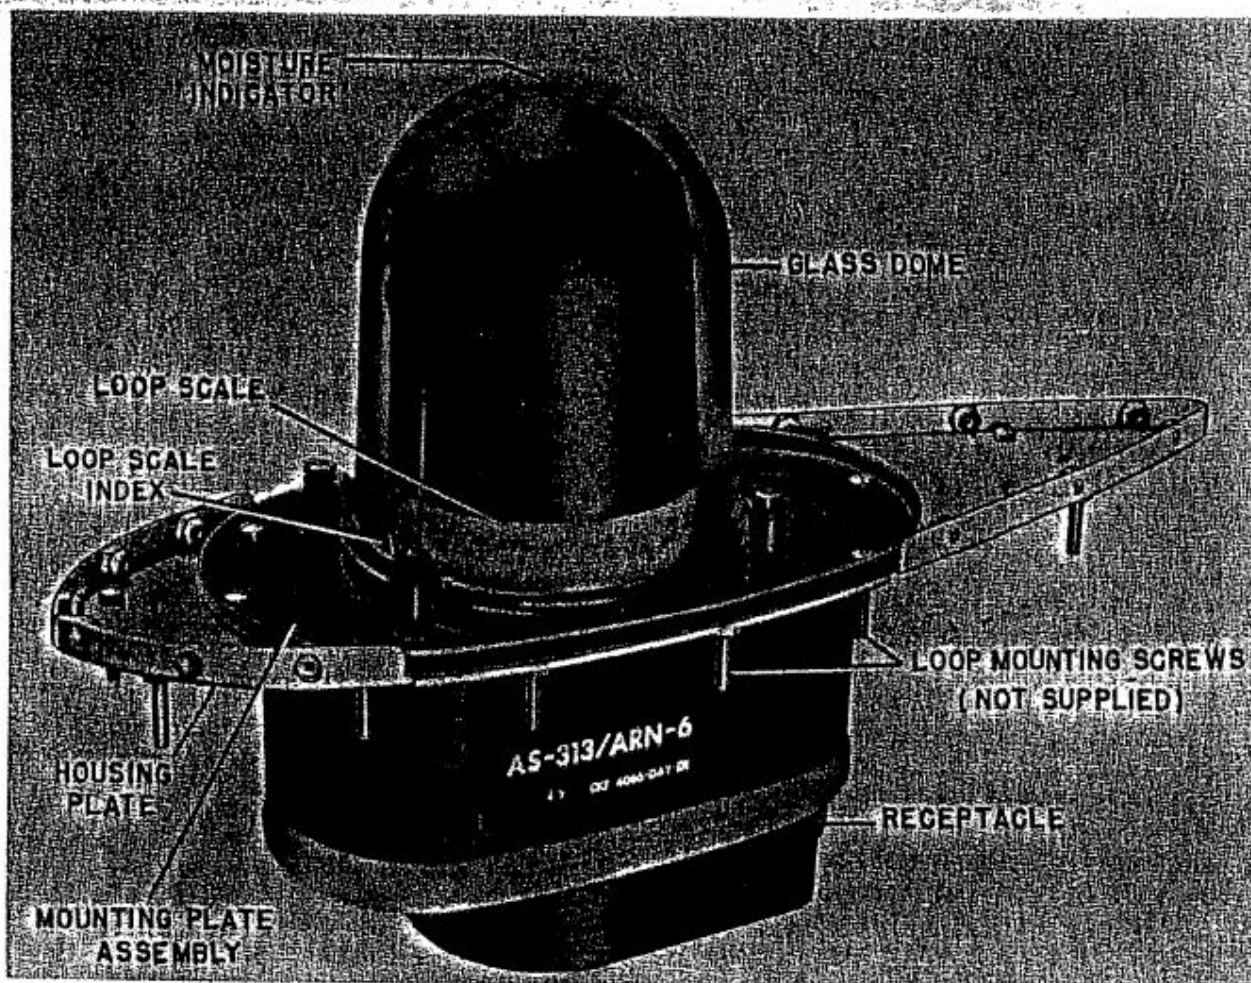
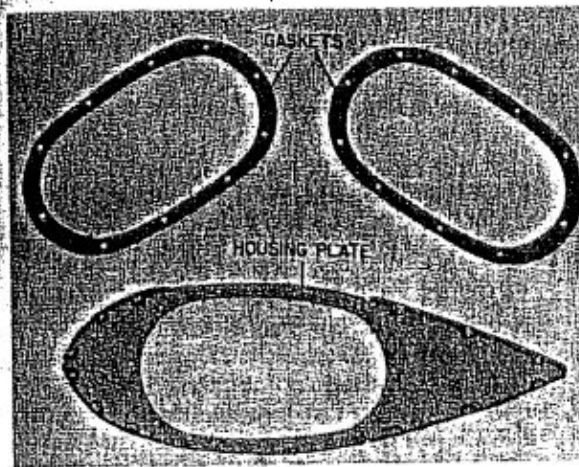

Figure 2-1. Loop AS-313/ARN-6, Housing Removed
Figure 2-2. Loop AS-313(1)/ARN-6,
1. Remove the loop housing in order to see the loop scale (see figure 2-1). Use the "LOOP L-R" switch and rotate the loop to 15 degrees as indicated on the loop scale. Adjust the "VAR" knob on the indicator until the azimuth zero is at the index. Check the indicator pointer reading, which should be 15 degrees if the loop compensator is adjusted for zero correction. Rotate the loop to 45 degrees as indicated on the loop scale and again check the indicator reading. Repeat this check in 30-degree steps for one complete rotation of the loop.
(b) INSTALLATION.—Four holes are provided for holding the housing plate to the skin of the aircraft while mounting the loop (see figure 2-1) and ten holes are provided for the actual fastening of the loop and housing plate to the aircraft (see figure 6-17). A hole must be cut in the skin to accommodate the base of the loop, which projects into the fuselage about 5 inches. The housing is placed over the projecting glass dome and fastened to the housing plate by means of 12 screws. Two gaskets are supplied (see figure 2-2), one to go between the loop mounting plate and the housing plate, and the other to go between the housing plate and the skin of the aircraft. These gaskets are intended to prevent water, dirt, etc., from entering the fuselage. In locating the mounting holes for the No. 10 mounting screws, the fore-and-aft holes must be exactly in line with the center-line of the fuselage (within 0.25 degrees). In some cases the loop may be mounted slightly to one side of the center-line, but the axis of the housing must still be parallel to the center-